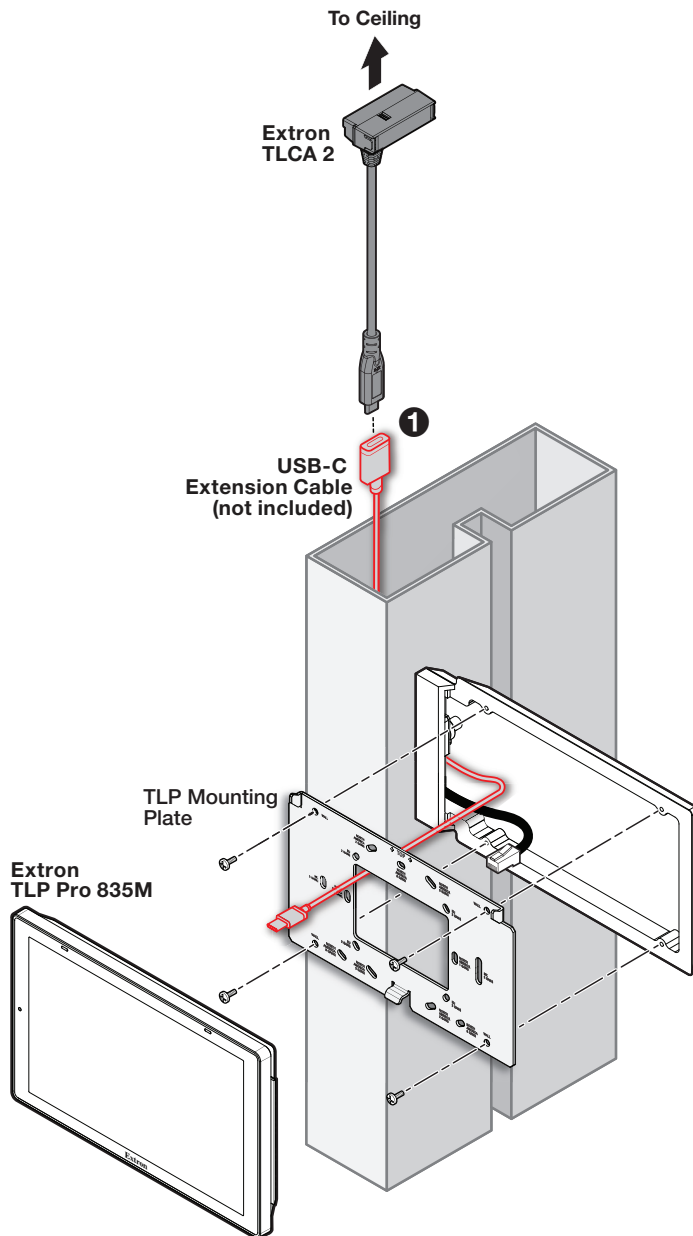

Figure 14. Mounting TLCA 2 to Wall, Glass Wall or Mullion Mount (With USB C Extension Cable)
Using a USB C extension cable (not included) (see figure 14, ①), extend the TLCA 2 to the nearest available mounting location (for example, to the ceiling).